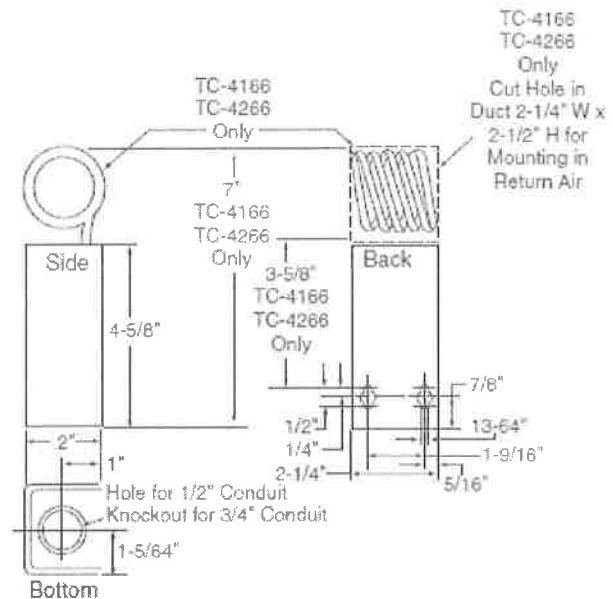

Figure-2 Case Dimensions.
Locate the device allowing proper distance to the bulb location. The case can be mounted in any position. Refer to Figure-2 for case dimensions.
1. Prepare duct for mounting by cutting hole and providing mounting screw holes per Figure-2.
1. Remove cover and provide two holes for #10 round head screws using the housing as the template or by using the dimensions shown in Figure-2.